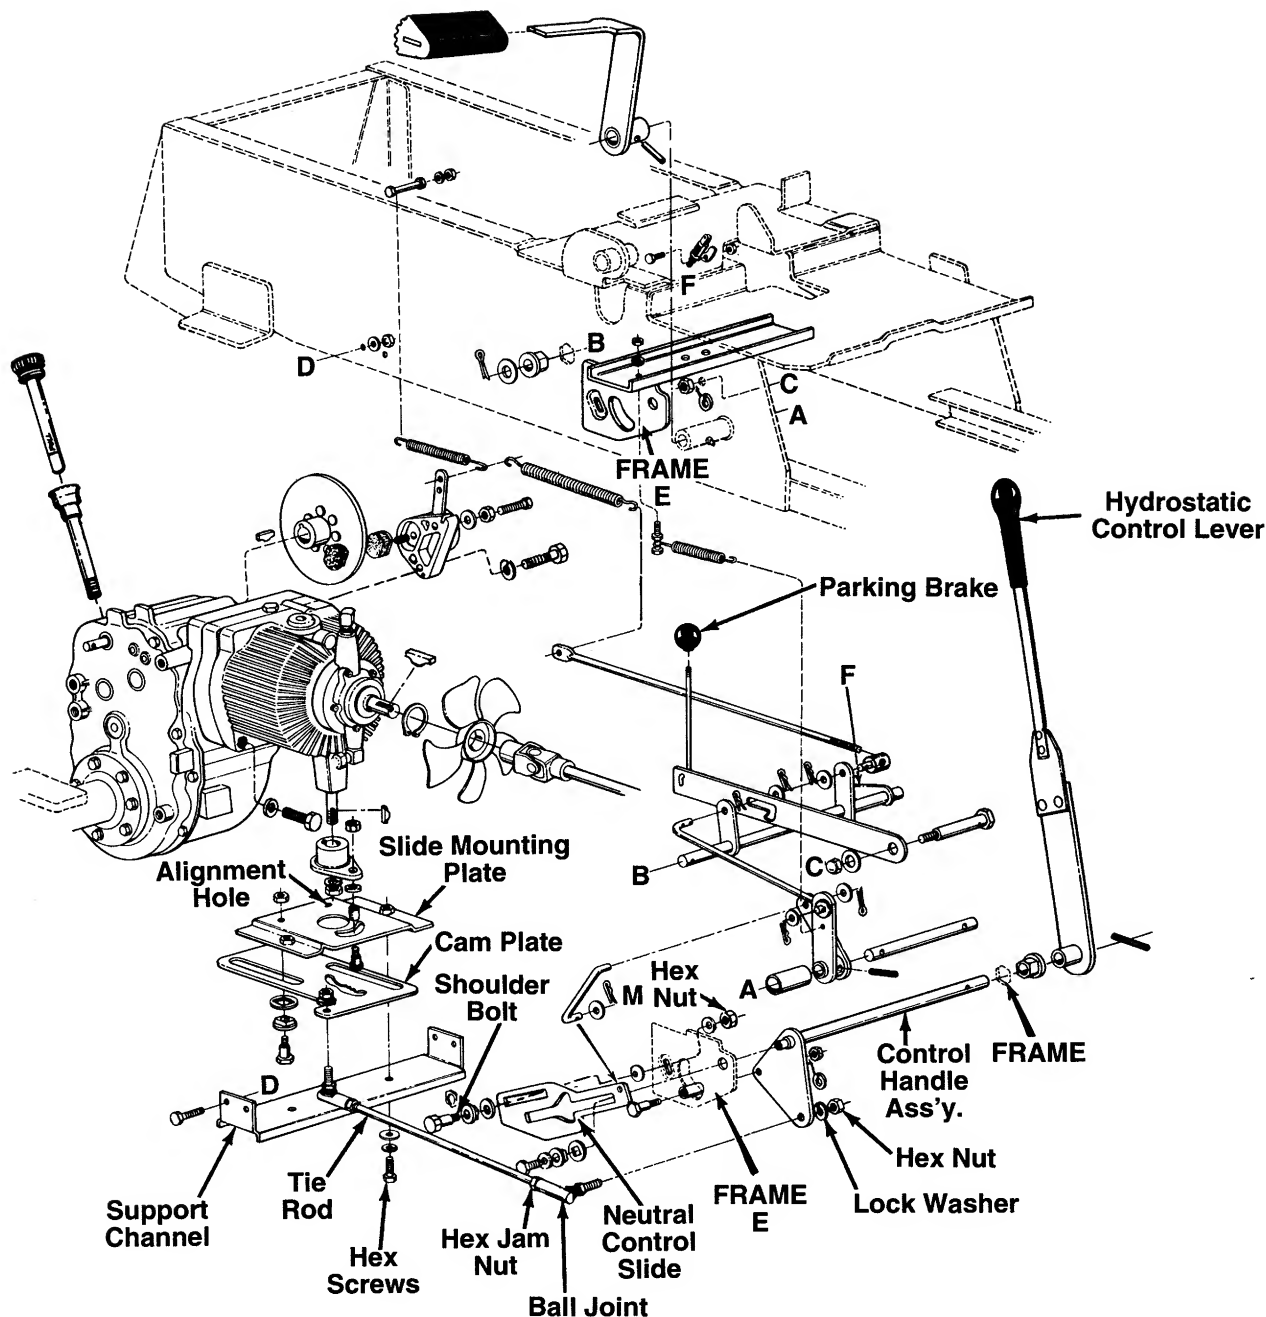

FIGURE 14.
## NEUTRAL ADJUSTMENT FOR THE HYDROSTATIC CONTROL LEVER (See Figure 14)
2. Remove the ball joint hex nut and lock washer from the control handle assembly. See figure 14.